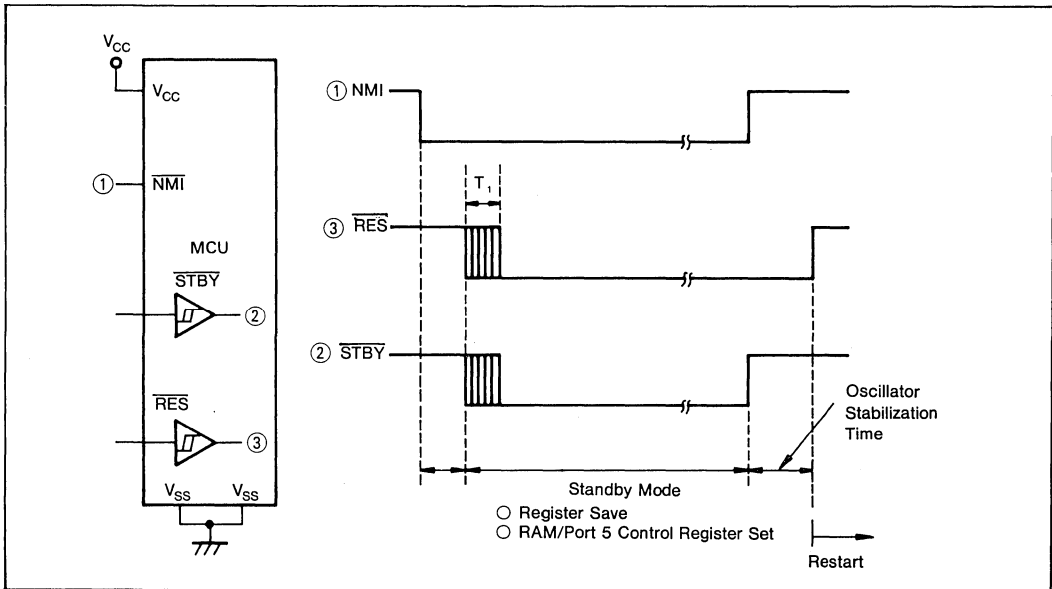

Figure III-15. Standby Mode Timing
**Question:** The timing for the standby mode is shown in figure III-15 (see also figure 3-5). Is  $T_1$  in the figure defined?